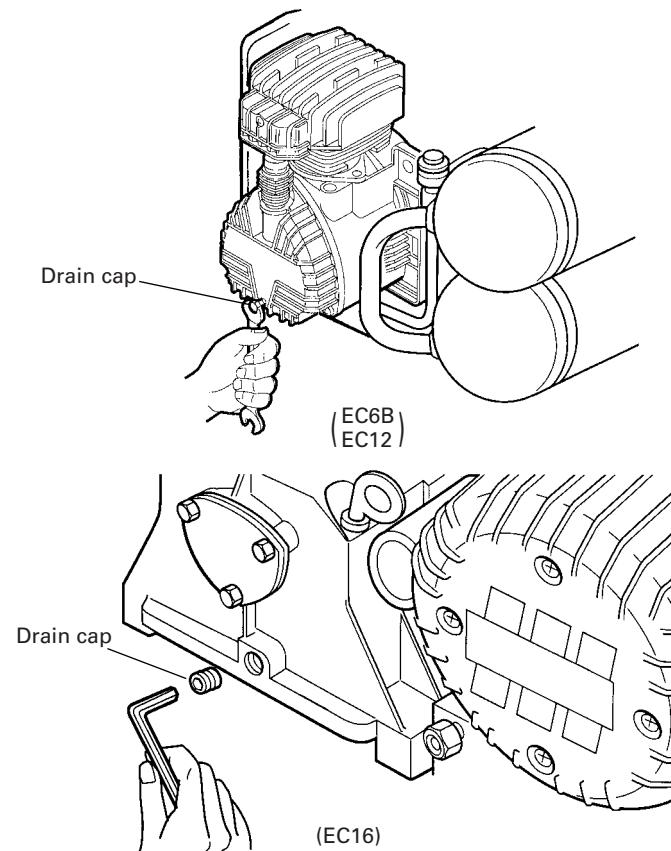

Fig. 8
(1) Within the first 50 hours of operation, completely replace the oil of the pumping element. Unfasten the oil drain cap on the casing cover, drain all the oil, and screw the cap back on (Fig. 8).
- (2) Check the oil level of the pumping element every 50 hours or once a week.
- (3) Change the oil every 300 working hours or every 6 months.